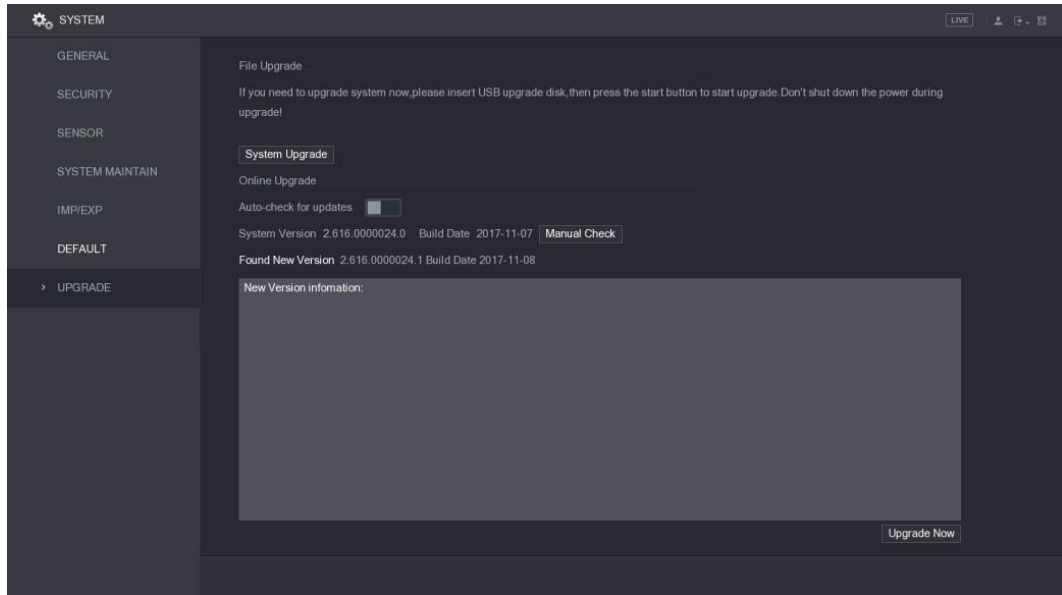

Figure 5-270
- If the text indicating there is a new version, please go the step 3. See Figure 5-270.